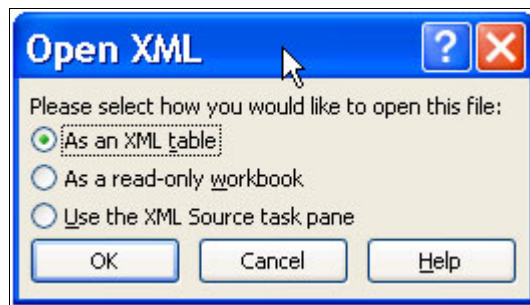

Figure 4 Opening as an XML table
2. Right-click the file name to display the context-sensitive menu bar that you use to open the XML file with Microsoft Excel, as shown in Figure 4. Confirm that you want to open the file as an XML table. Select the option and click **OK**.